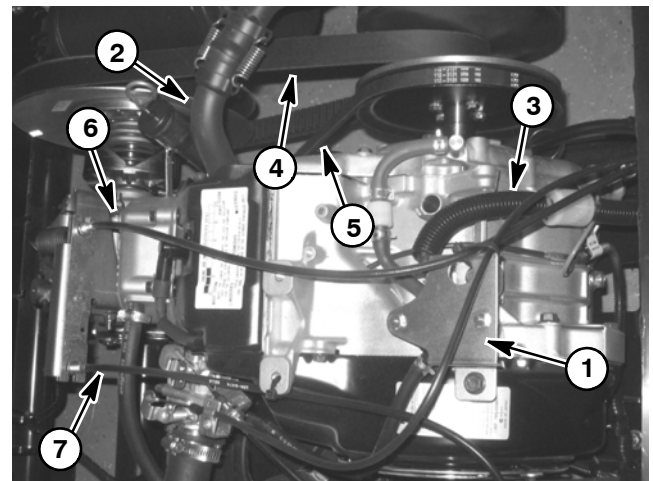

Figure 12
5. Disconnect fuel hose from the fuel pump (Fig. 12). Remove cable tie securing the choke and throttle cables to the fuel pump bracket.
9. Remove cap screw (item 49) and flat washer (item 50) that secure r-clamp (item 51) and shift cables (item 8) to engine. Position shift cables away from engine.
11. Remove four (4) flange nuts and cap screws securing the engine to the engine tray.
- A. Attach a short section of chain between fuel pump bracket lift hole and exhaust manifold (Fig. 12).
9. Connect fuel hose to the fuel pump (Fig. 12). Make sure to secure hose with hose clamp.